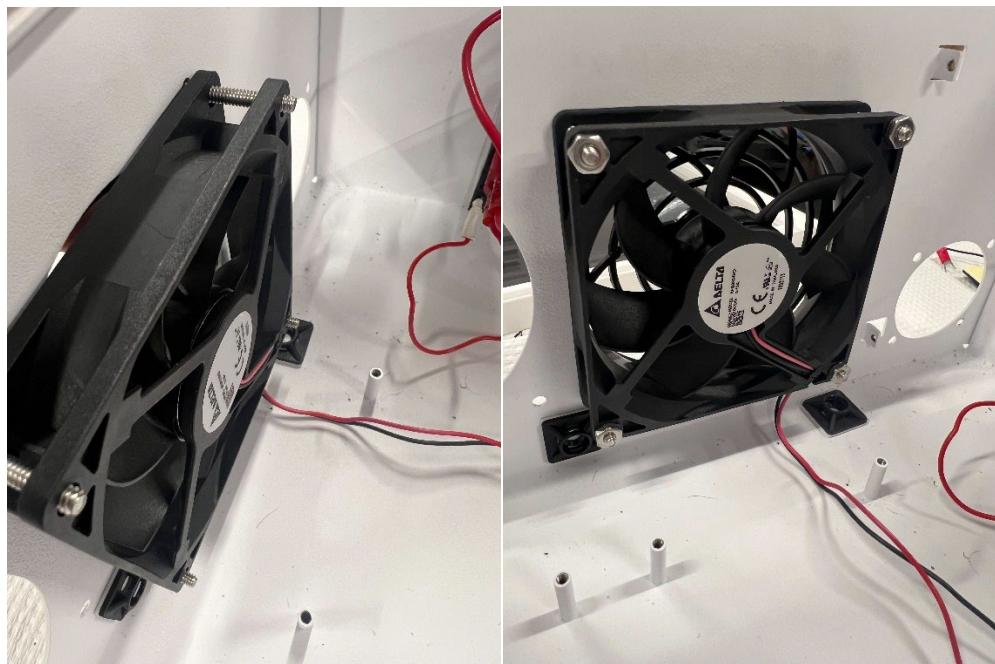

Figure 14: Alignment and mounting of fan with mounting screws (left) and with nuts tightened (right)
3. Align the mounting holes on the fan with the screws coming through the mounting frame. Screw and tighten nuts on each screw. See Figure 14 for reference